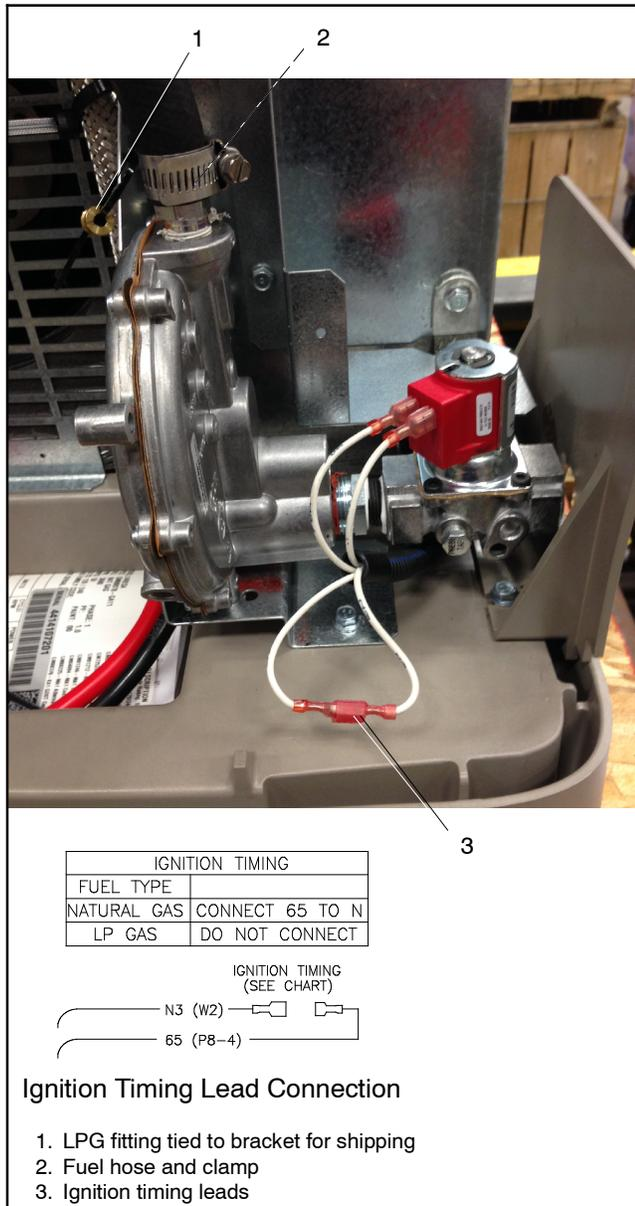

Figure 1-12 Fuel System, As Shipped (Model 14RESA/RESAL built after June 26, 2014)
Model 14RESA/RESAL generators built June 26, 2014, or later are not equipped with the fuel block. These units use fuel orifice fittings installed in the hose fitting at the fuel regulator. See Figure 1-12 and use the instructions in this section for fuel conversion.
The unit is typically shipped set up for natural gas, with the LPG fitting tied near the fuel solenoid valve. To convert to LPG, remove the NG fitting and install the LPG fitting as described below. See Figure 1-12 for the fuel system component locations.
5. Remove the hose clamp and fuel hose from the hose fitting. See Figure 1-12.
9. Disconnect ignition timing leads 65 and N3 for LPG. The ignition timing leads are located near the fuel solenoid valve. See Figure 1-12.